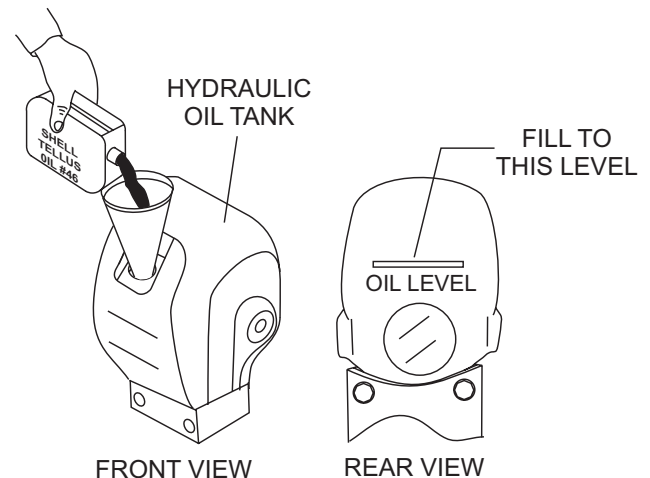

Figure 32. Hydraulic Oil Maintenance
2. Using a funnel, add **Shell Tellus Oil #46** or equivalent to the hydraulic oil tank through the oil filler port (Figure 32). Oil tank capacity is 50.7 fl. oz (1500 cc)